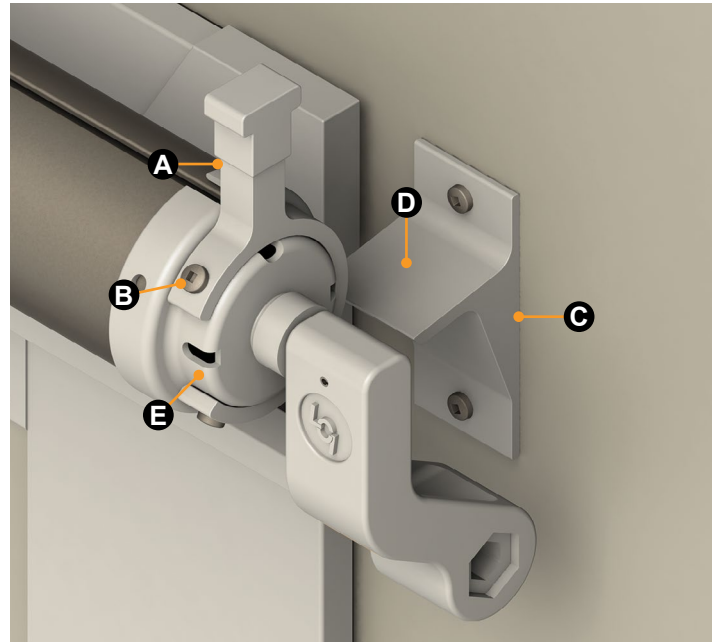

Fig.1
2. Place the stop (**Fig.1A**) on the end cap of the roll tube of the awning so that the stop is pointing upwards in the 12 o'clock position (**Fig.1**).